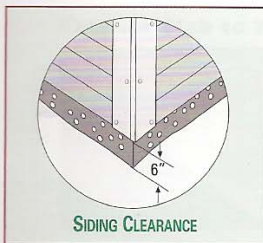

FIGURE 15
- James Hardie products must be installed with a 6" clearance to the earth on the exterior of the building or in accordance with local building codes if greater than 6" is required (Figure 15). Foundations must extend above the adjacent finished grade in accordance with local building codes – typically a minimum of 6".